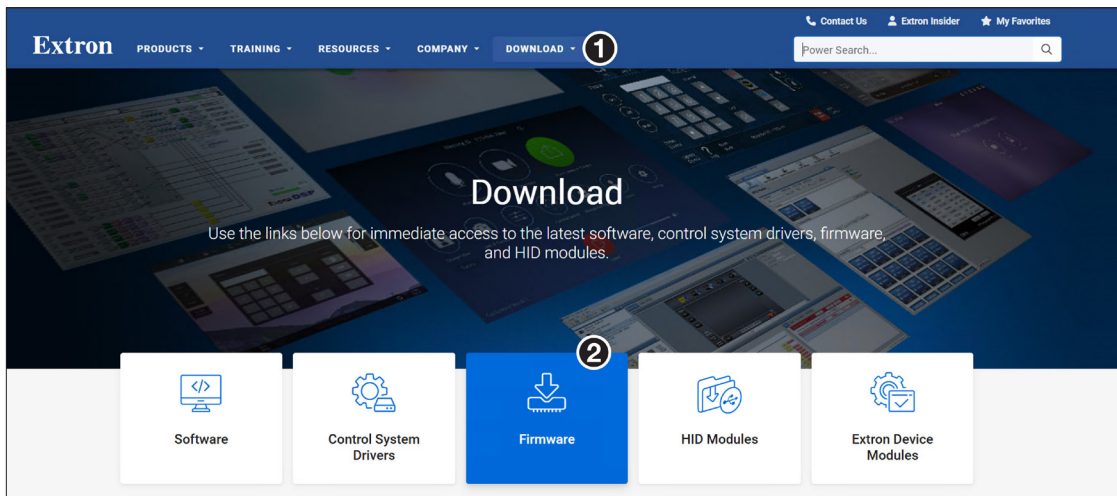

Figure 9. Firmware Link on the Download Tab
1. Visit the Extron website (www.extron.com), click **Download** (see figure 9, ①) at the top of the page, then click the **Firmware** link (②) from the menu options.